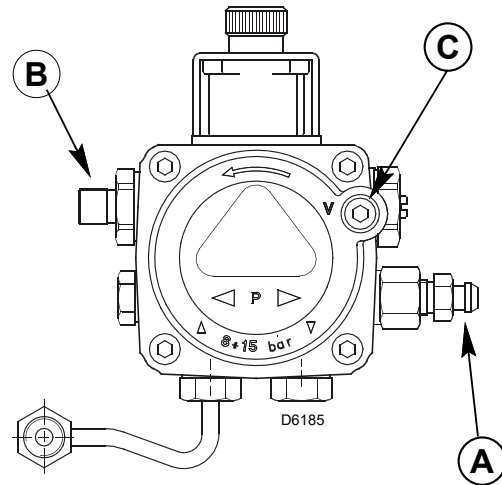

Fig. 16
To protect the pump gears, it is advisable to lubricate the pump prior to purging a lift system. Apply oil through the vacuum port C)(Fig. 16).
- A Loosen the bleeder valve A)(Fig. 16) until oil flows out. Tighten the bleeder valve securely and start burner.
- Loosen the bleeder valve (A).